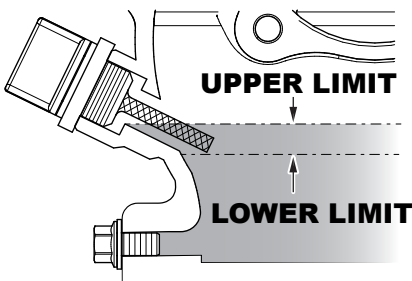

Figure 6. Engine Oil Dipstick (Oil Level)
4. If the oil level is low (See Figure 6), fill to the edge of the oil filler hole with the recommended oil type as listed in Table 6. Maximum oil capacity is 1.16 quarts (1.1 liters).